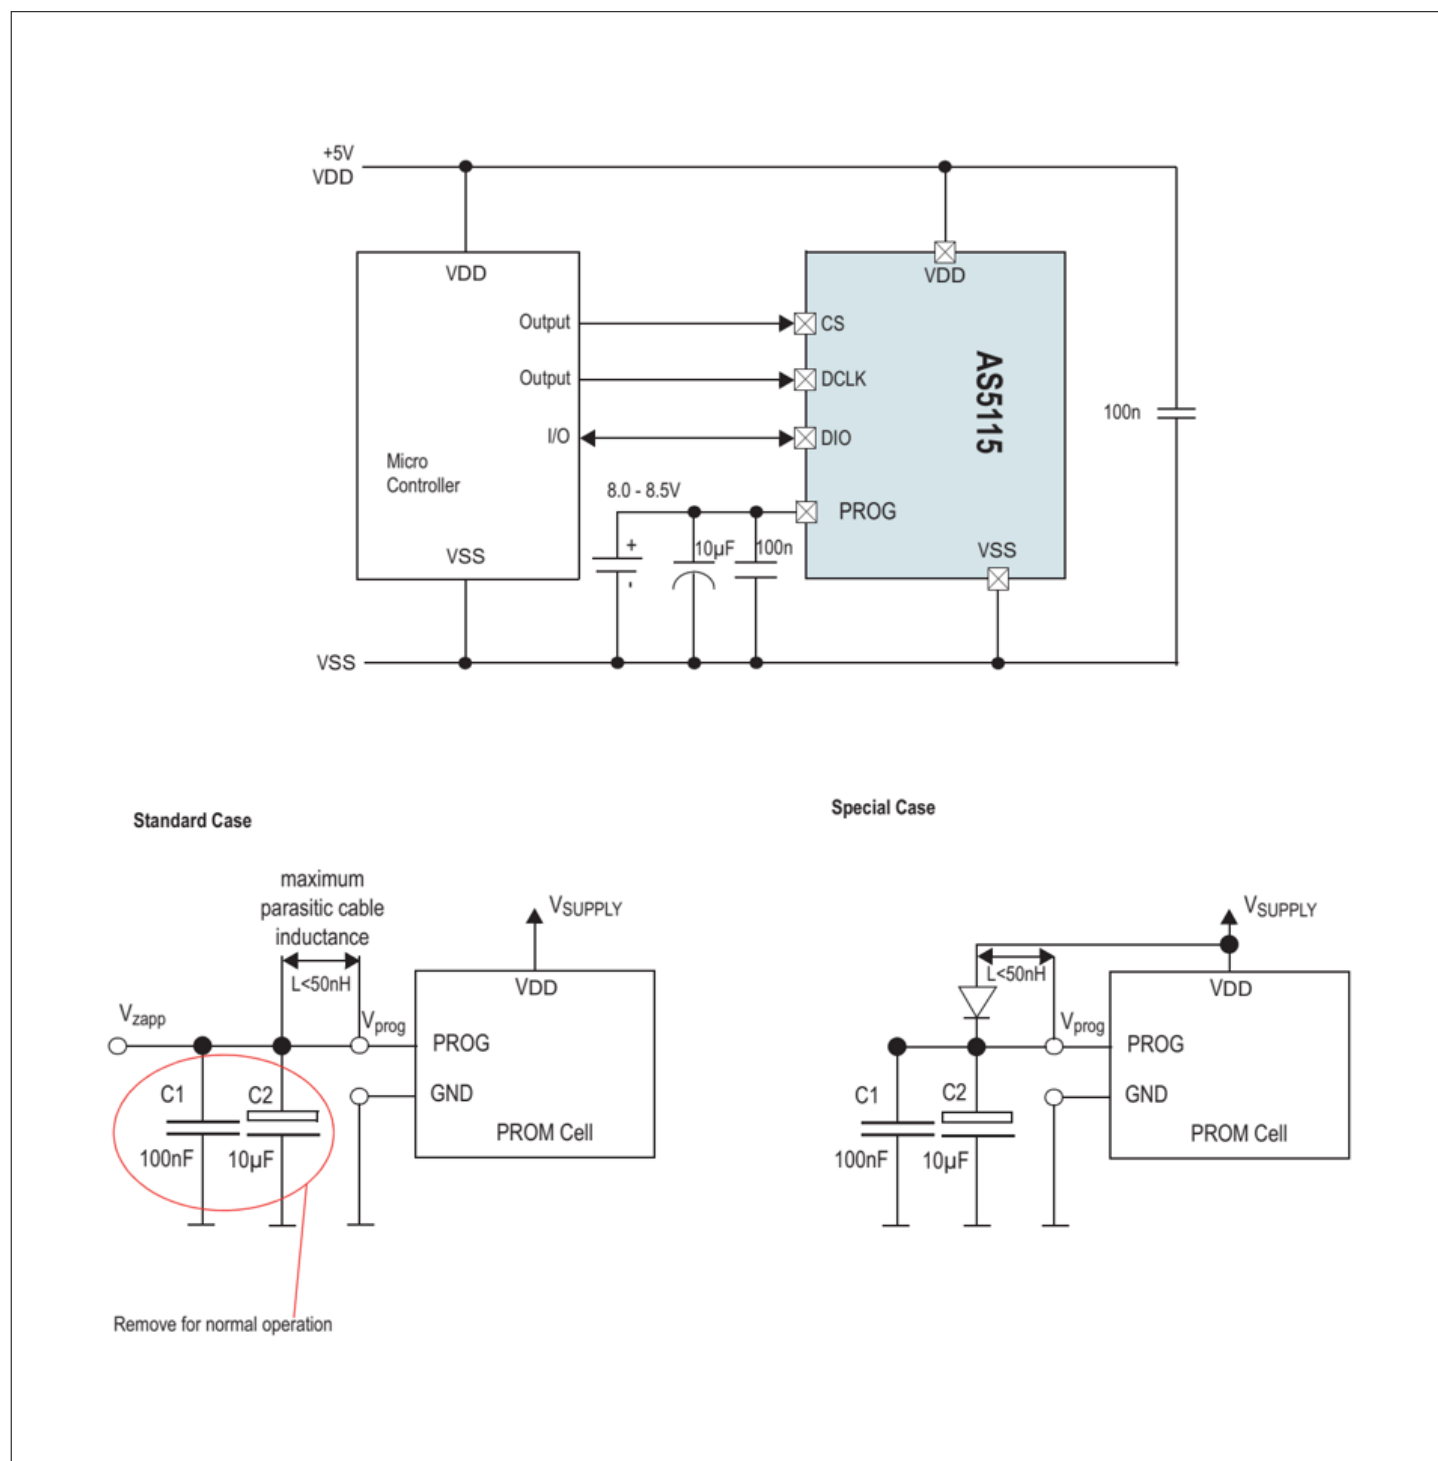

Figure 9 OTP programming connection
1. The maximum capacitive load at PROG in normal operation should be less than 20pF. However, during programming the capacitors C1+C2 are needed to buffer the programming voltage during current spikes, but they must be removed for normal operation. To overcome this contradiction, the recommendation is to add a diode (4148 or similar) between PROG and VDD as shown in Figure 9 (special case setup), if the capacitors can not be removed at final assembly.
During programming the OTP, the diode ensures that no current is flowing from PROG (8V - 8.5V) to VDD (5V). In the standard case (see Figure 9), the verification of a correct OTP readout can be done by analog readback of the OTP register.